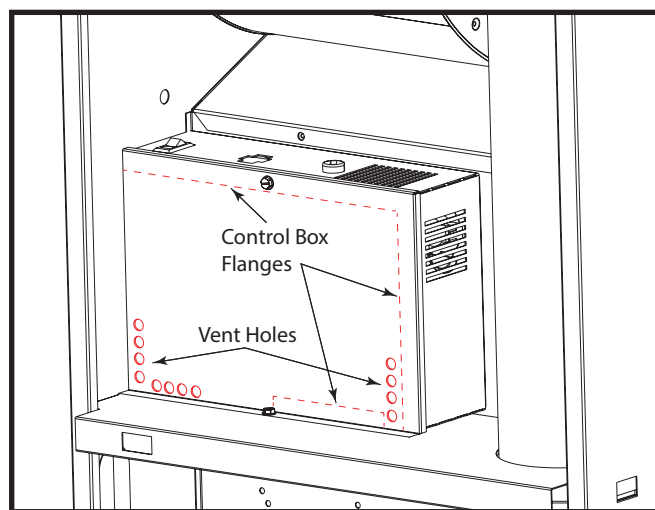

Figure 3. Vent Plate for Control Cover
Create Ventilation Holes in Control Cover (see Figure 3)
1. Drill a minimum of eight 1/4" diameter vent holes in the control box cover (see suggestions for potential locations in Figure 3).